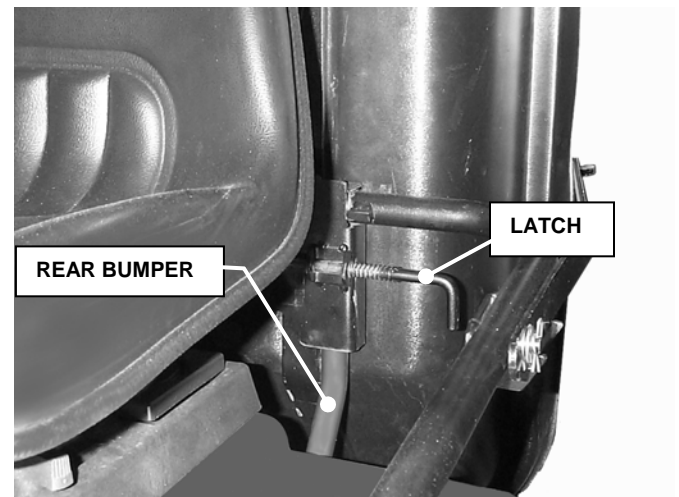

FIGURE 1.5
- B. Place Front Cover Assembly over rear Bumper and secure in place with spring loaded Latch. See Figure 1.5.